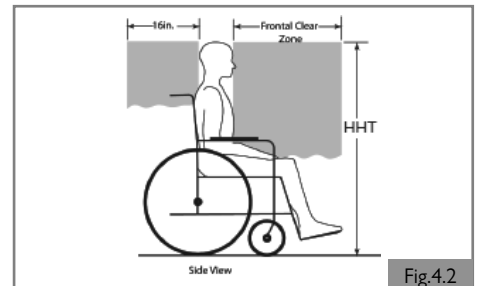

Fig.4.2
7. The estimated seated height (HHT) from the ground or floor to the top of the wheelchair-seated occupant's head ranges from approximately 47-in (119 cm) for a small adult female to about 61-in (155 cm) for a tall adult male (Fig. 4.2).